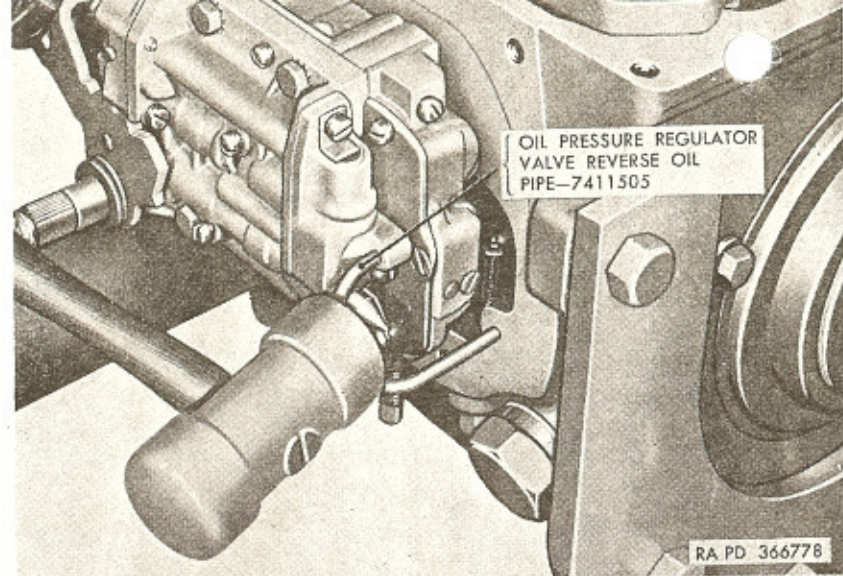

Figure 208. Installing oil pressure regulator valve reverse oil pipe.
f. Insert short end of oil pressure regulator valve reverse oil pipe into bore of transmission control valve and long end of pipe into passage in transmission case. Tap pipe into place with plastic hammer (fig. 208).